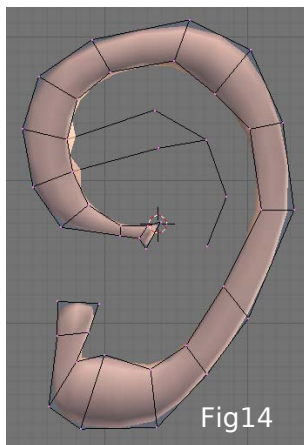

Fig14
**Step2** Extrude the lobe you shaped in step 1 and start building the Y shaped bit, see the fig14.